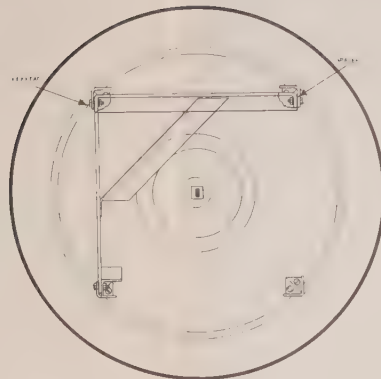

Figure 3-16. Mounting Bracket Installation - Horizontal Polarization
Step 2. Mount the bracket assembly to the ears as shown in Figure 3-16 using the hex head bolts and nuts (3 places).